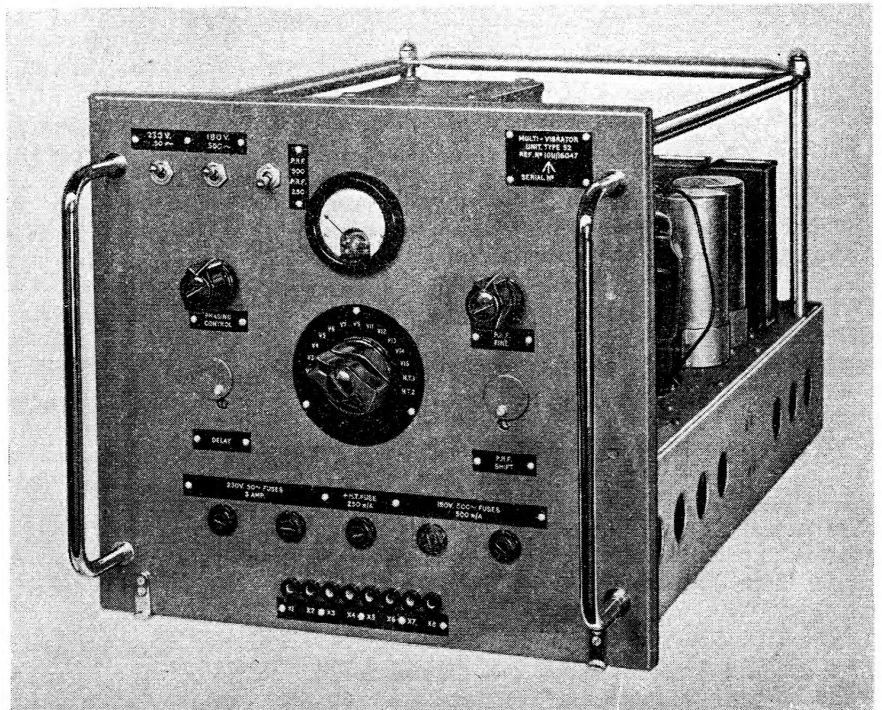

Fig. 1. Multivibrator unit Type 52—front panel
3. The unit contains its own HT and LT power supply units requiring an input of 230 volts, 50 c/s. Valve currents and HT can be metered by means of a meter and switch mounted on the front panel. A front panel view is shown in fig. 1 and fig. 2 is a schematic of the unit.